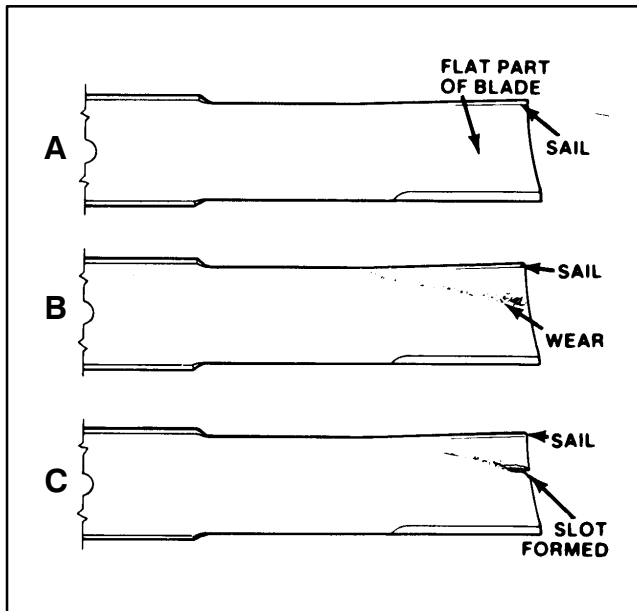

Figure 32
CHECKING SAIL AND SHARPENING CUTTER BLADE (Fig. 32–33)
2. Examine cutting ends of the blade carefully, especially where the flat and curved parts of the blade meet (Fig. 32–A). Since sand and abrasive material can wear away the metal that connects the flat and curved parts of the blade, check the blade before using the mower. If wear is noticed (Fig. 32–B), replace the blade.
If blade is allowed to wear, a slot will form between the sail and flat part of the blade (Fig. 32–C). Eventually a piece of the blade may break off and be thrown from under the housing, possibly resulting in serious injury to yourself or bystanders.